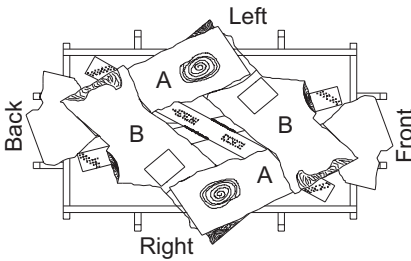

Figure 47 - Installing Logs "B" (Top View)
7. Place logs "B" as shown in Figure 47, page 23. Lift end of log "A" that will be propped up and place log "B" under it. At the same time, the other side of log "B" is placed over other log "A". Repeat procedure for other log "B".